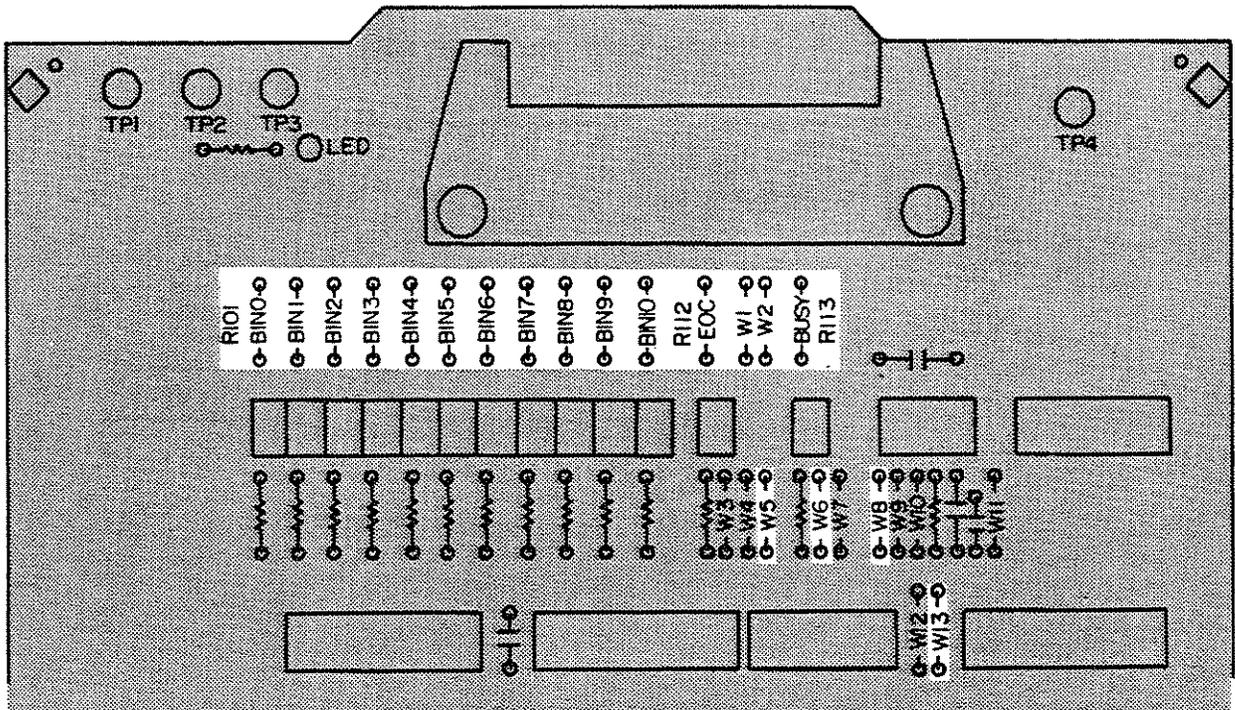

Figure 3-7. Palomar M16 Jumper and Pull-Up Resistor Locations
2. Configure the following interface signals by installing the jumpers as shown in Figure 3-7.
3. All I/O signals are TTL level so you must install all pull-up resistors to +5 V (install pull-up resistors R101 - R113). Refer to Figure 3-7 for the pull-up resistor locations.
4. Bring +5 V out through pins 12 and 17 of the handler interface rear panel connector (install a jumper at W1 for +5 V and at W2 for the COMMON connection). Refer to Figure 3-7 for the locations of W1 and W2.